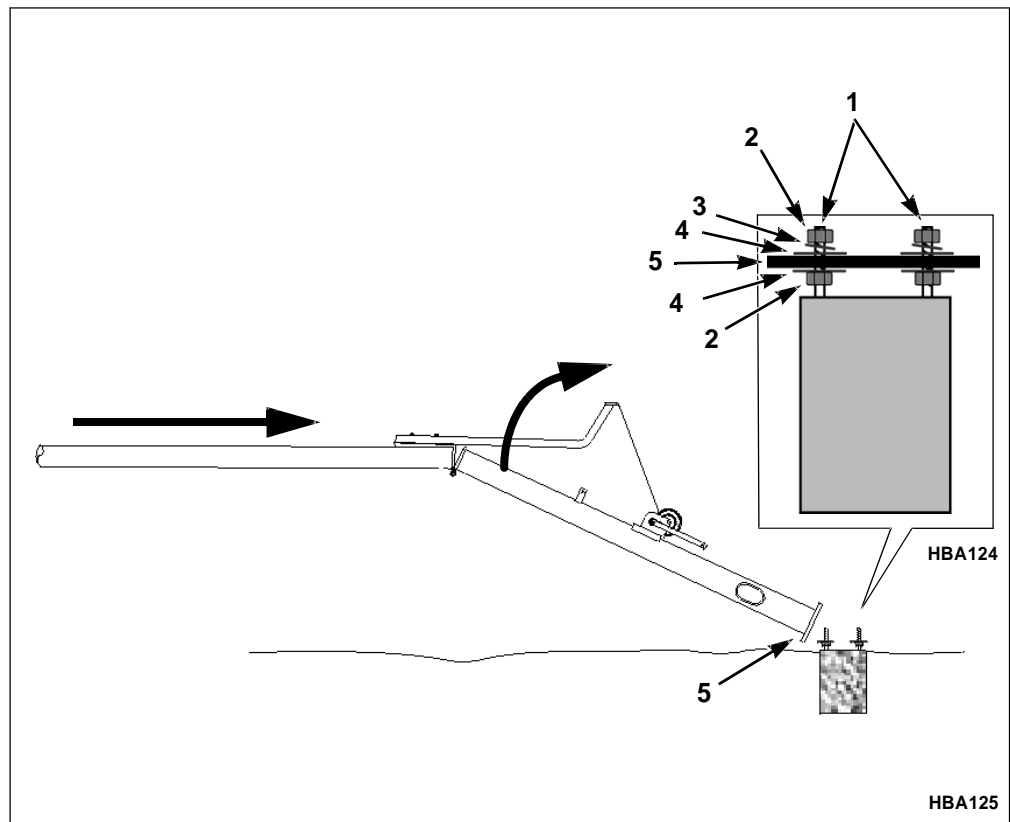

Figure 9. Fastening the Base to the Pole
2. Rotate the swing arm to position as shown in Figure 9.
4. With both people lifting at the same time, lift the base of the pole over the top of the four corner posts, see Figure 9.
5. With the base of the pole on top of the four corner posts, place a 3/4" flat washer on top of each corner post, see Figure 9.
6. Place a 3/4" lock washer on top of each flat washer, see Figure 9.
7. Screw a 3/4" nut onto each corner post and tighten nuts using a 1-5/8" wrench until base of pole is secure, see Figure 9.